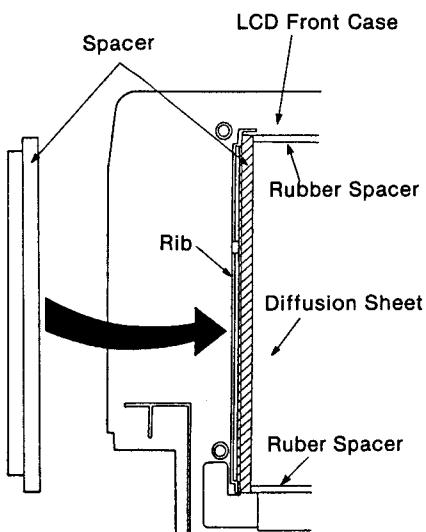

Figure 35
- (3) Put the spacer into the clearance between the rib of LCD front case and LCD unit as shown in Figures 35 and 35A.